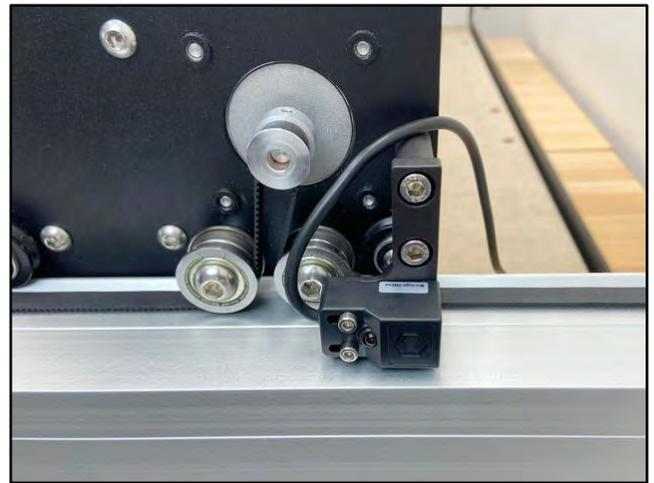

Figure 21
1. Install the Y-Axis proximity switch mount to the outside of the Y2-carriage. See **Fig. 21**.
- a. Use a 4mm hex key and two (2) M5×35mm SHCS to secure the mount to the outside of the Y2-carriage.
2. Attach Y-Axis proximity switch to the mount. See **Fig. 21**.
- d. Use a 2.5mm hex key and two (2) M3×18mm SHCS to secure.